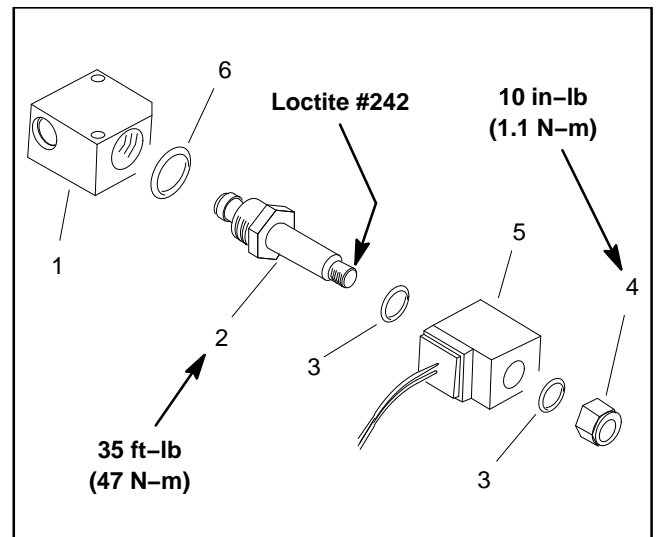

Figure 64
1. Disassemble solenoid valve manifold as needed using Figure 64 as a guide.